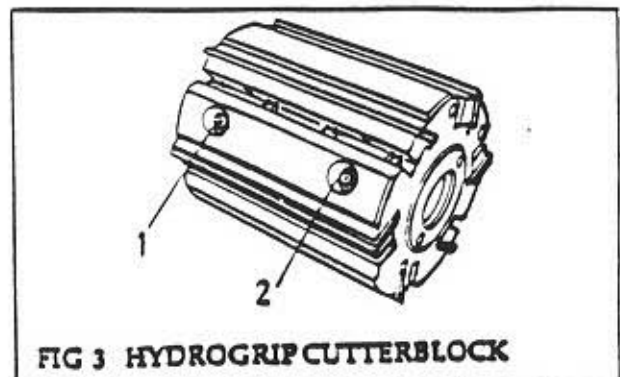

FIG 3 HYDROGRIP CUTTERBLOCK
Hydrogrip cutterblocks (Fig 3)
(1) Carefully clean spindles, cutterblocks, spacers and collars before fitting new cutterblocks.
(2) Carefully place the cutterblock on the spindle. On the Hydrogrip blocks tighten pressure release screw (2), and pressurise the cutterblock by applying hydraulic pressure to the pressure nipple (1) located in a recess located on the barrel of the block (see Fig 3).